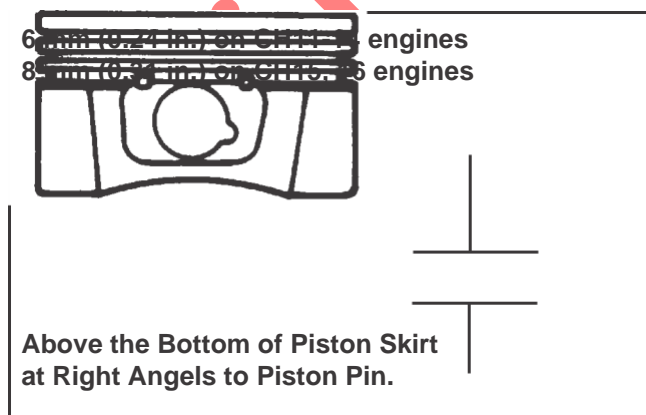

Figure 10-2. Measuring Piston Diameter.
1. With a micrometer, measure the diameter of the piston perpendicular to the piston pin, and up from the bottom of the piston skirt as indicated in Figure 10-2, based on the model involved.